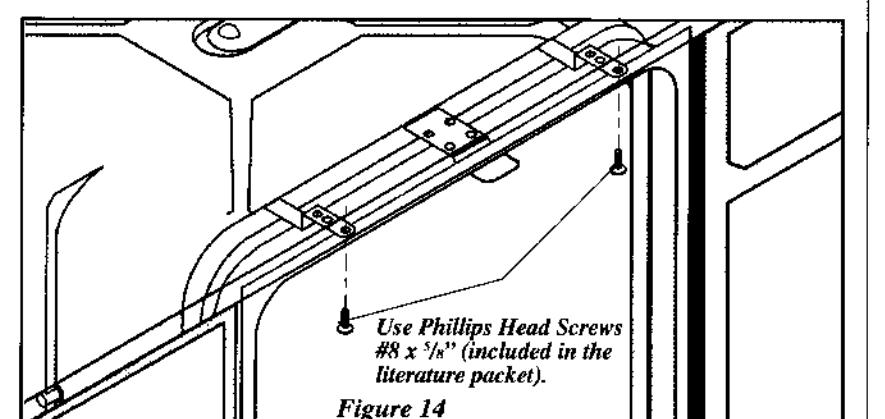

Figure 14
- Adjust levelers (see Step 5) so mounting brackets touch underside of countertop. **IMPORTANT: Dishwasher must rest on floor—do not hang from countertop.** See Figure 14.